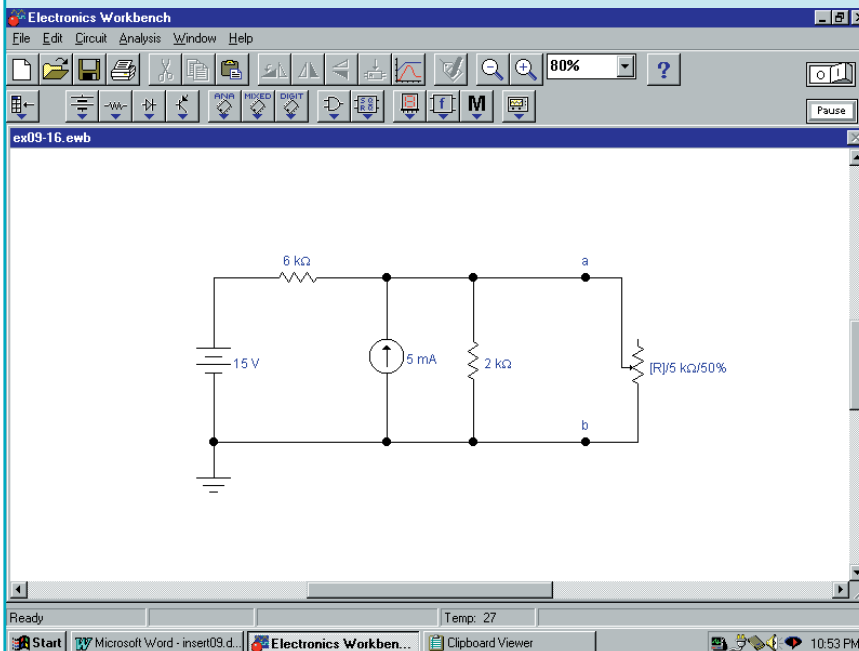

FIGURE 9-67
1. Using Electronics Workbench, construct the circuit as shown in Figure 9-67.